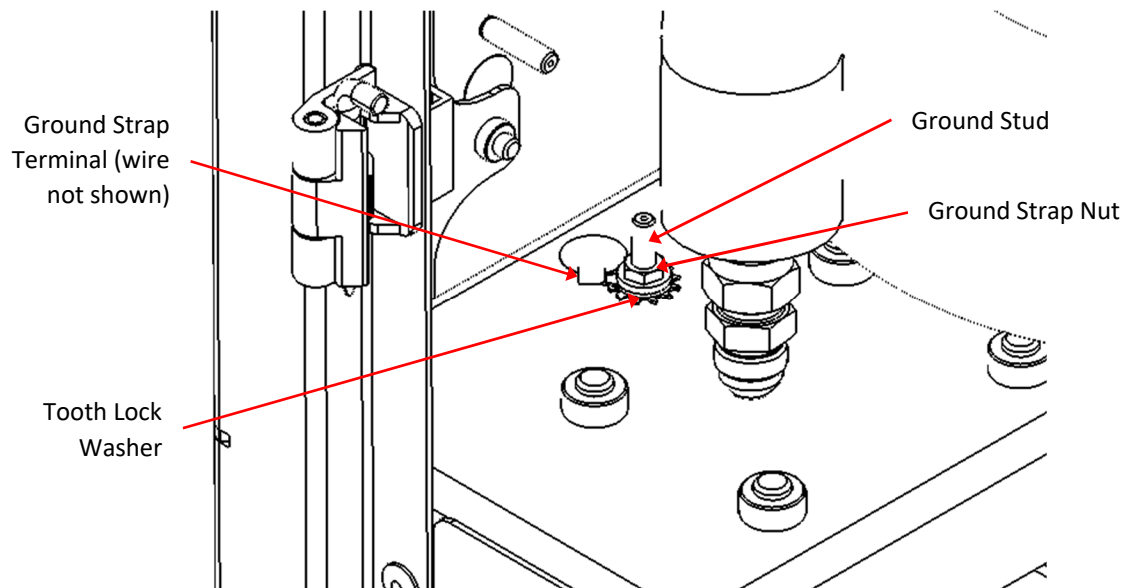

Figure 2-10: Ground Strap
1. Access the inside of the left side of the cabinet base (refer to Figure 2-10).
3. Use a 10mm wrench to uninstall the M6 ground strap nut from the Ground Stud (refer to Figure 2-10) if not previously installed.
5. Locate the Ground Strap connected to the removed panel and uninstall (refer to Figure 2-10):
3. Locate the Ground Strap previously uninstalled from the removed panel and reinstall (refer to Figure 2-10):